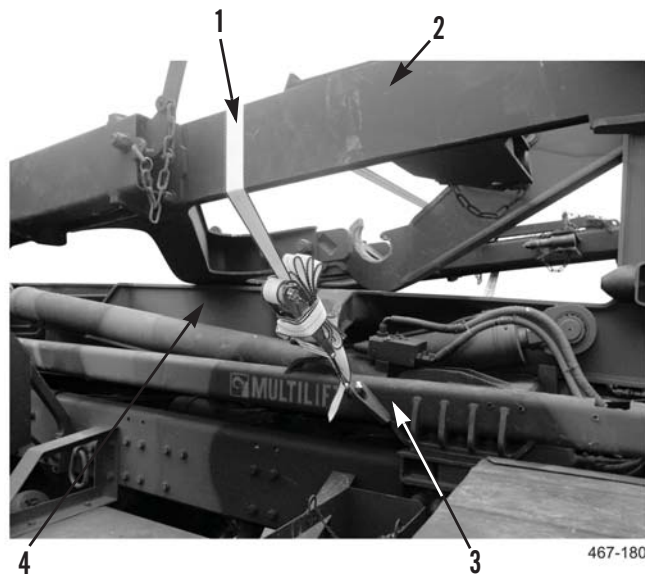

Figure 6. Strap Lift Frame to Truck Bed.
10. Use lifting device to lower lift frame (Figure 6, Item 2) to middle frame.
12. Secure lift frame (Figure 6, Item 2) to tiedown eyes on truck frame (Figure 6, Item 3) with ratchet strap (Figure 6, Item 1) provided in E-CHU kit.